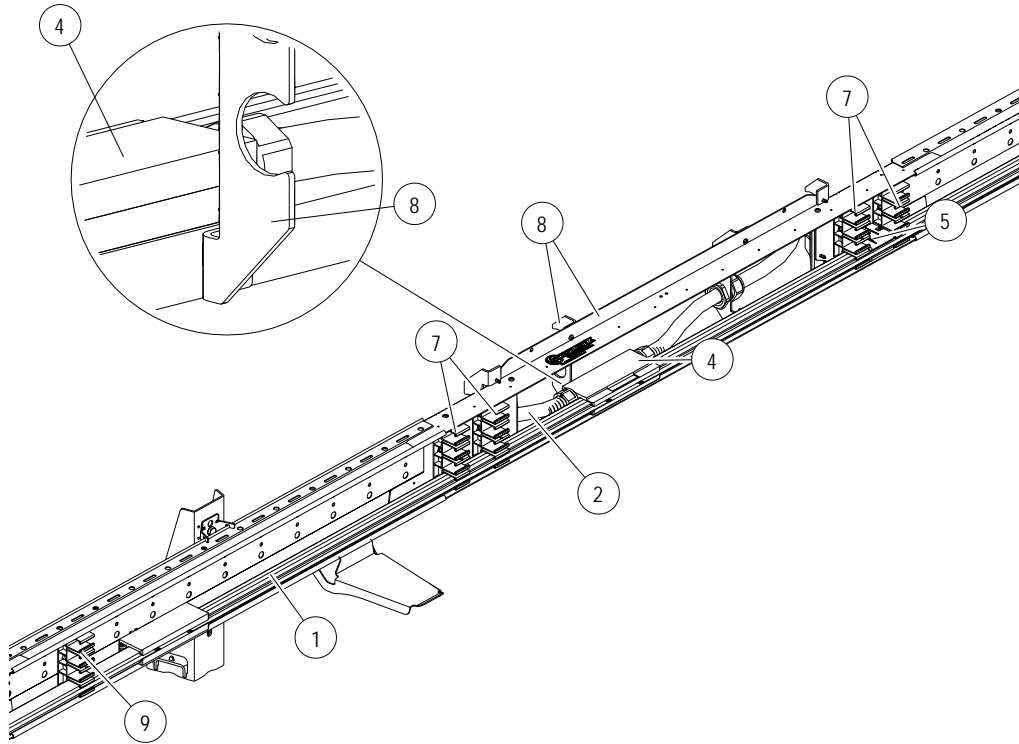

Fig. 47: Install conductor rail (1) on ProShell support profile
4. Hang the conductor rails with the preassembled line feed and anchor point (1) on the hanger clamps (7) on the right and left of the fastening frame (8). Start with the lower-most conductor rail pole and observe the PE position (Conductix-Wampfler recommends attaching the PE rail as the last or lower pole (viewed from above)) (see Fig. 47).
5. Lay the connecting cables (2) through the fastening frame to the rear (8) so that the line feed cap (4) fits into the cut-out of the fastening frame (8) and the preassembled anchor points (5) are positioned between their hanger clamps. In addition, hang the connected conductor rails on the additional hanger clamps (9) (see Fig. 47).